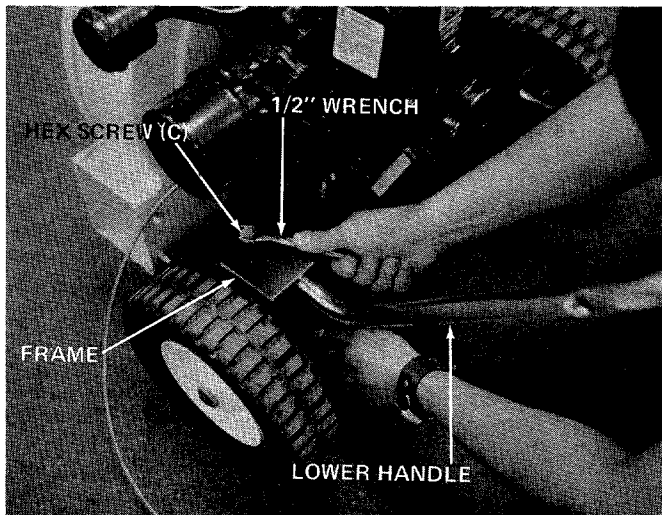

FIGURE 3
Secure lower handle to frame with two hex screws (C), lockwashers (D) and hex nuts (E). See figure 3. Two 1/2" wrenches are required.